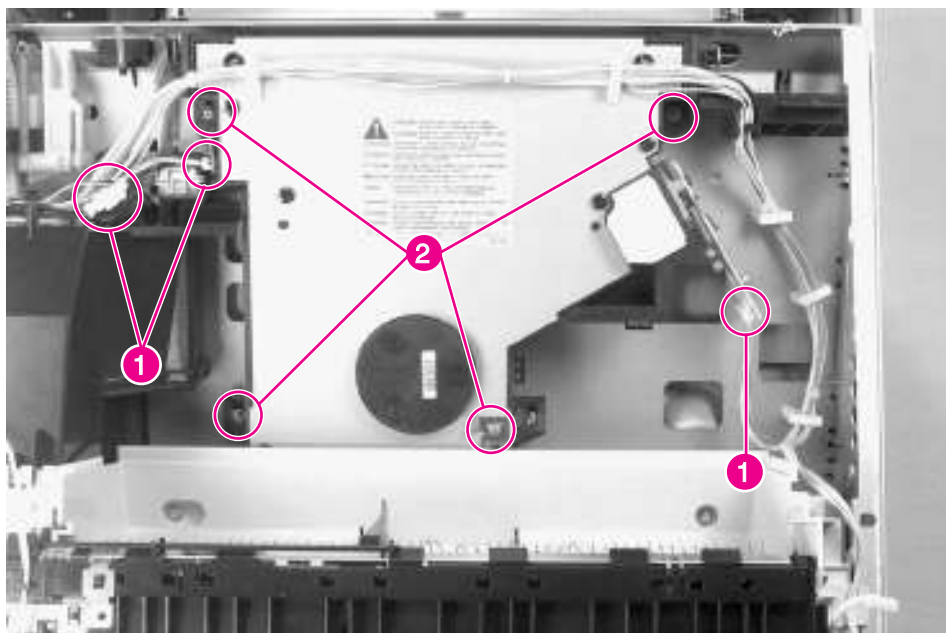

Figure 6-35 Laser/Scanner Assembly
- 3 Unplug three cable connectors (figure 6-35, callout 1).
- 5 Remove 4 screws (figure 6-35, callout 2).